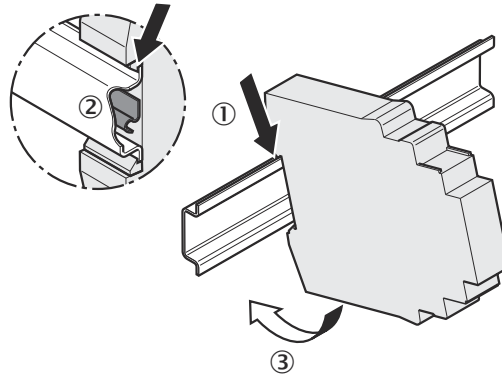

Figure 25: Mounting the module on the DIN mounting rail
- Mounting in a vertical orientation (on a horizontal mounting rail). figure 25